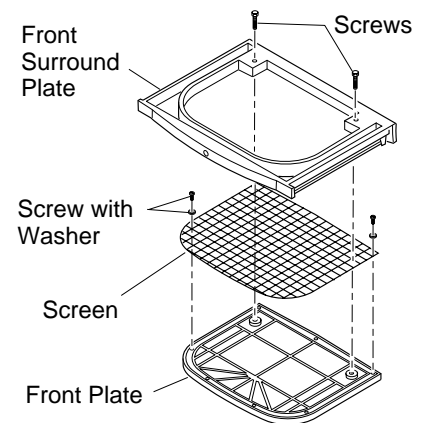

Figure 14 - Removing Screen from Front Assembly
- Lay the front panel assembly face down on a protected surface. Remove the two screws that hold the front plate onto the front surround plate (see Figure 14). Save these screws.
- Remove the seven screws and washers that hold the screen onto the front surround plate. Discard these screws, washers, and screen. They are for vent-free use only (see Figure 14).